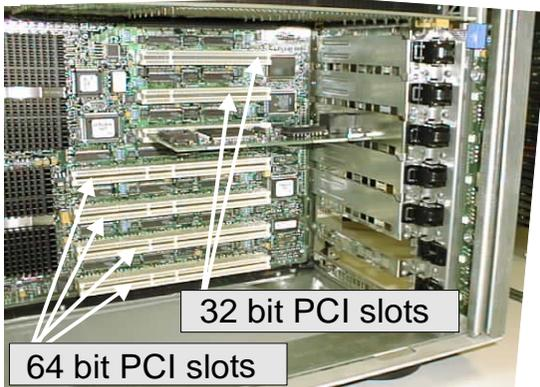

Figure 2-4. Choose an Available PCI Slot
1. Choose any available 32-bit or 64-bit PCI slot as shown in Figure 2-4.